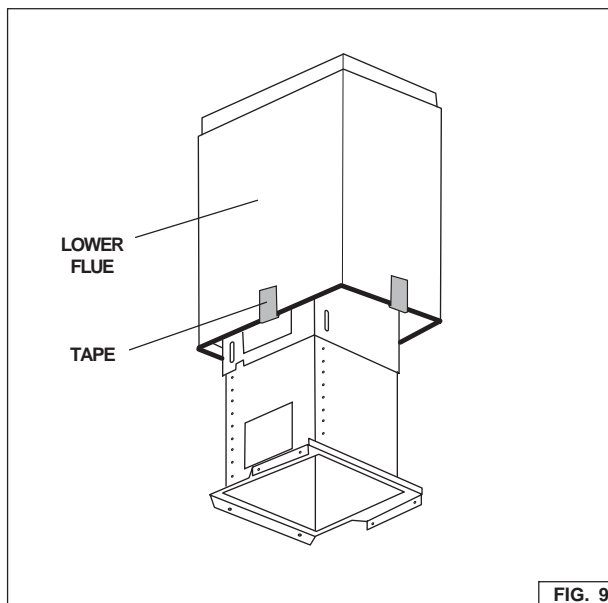

FIG. 9
2. Insert the **lower flue** moving it completely towards the top and fix it temporarily with a tape. Fig. 9.